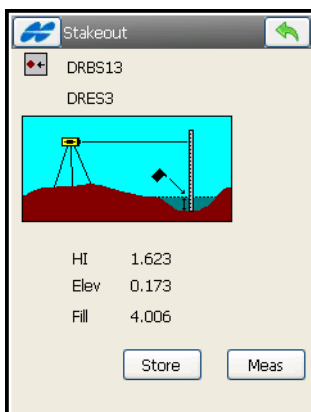

Figure 13-21. DL Stakeout
- **Stakeout** – opens the level **Stakeout** screen (Figure 13-21 on page 13-19).
The level *Stakeout* screen (Figure 13-21) displays the design point and the BS point.